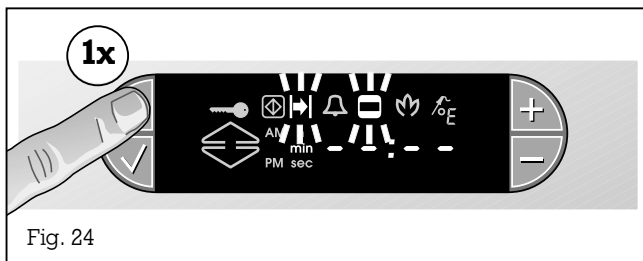

Fig. 24
- Press the ⌚ (Timer) key once. The ⏱ (Duration) symbol and the ◻ (Cooking time) symbol flash on the display. Dashes appear on the display (i.e. no value programmed) (Fig. 24).